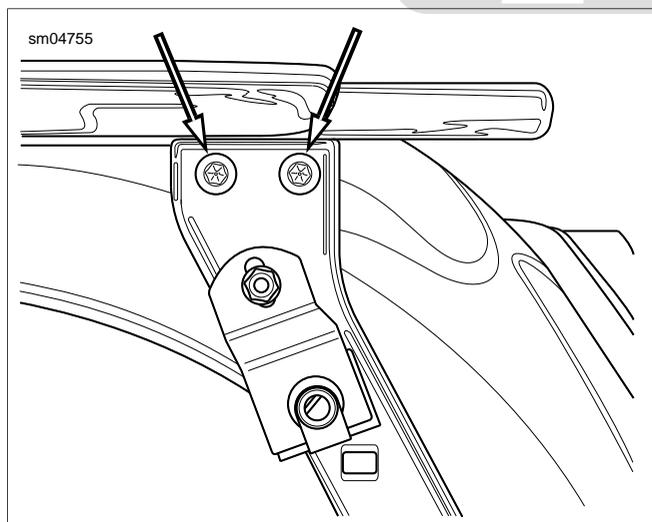

Figure 2-168. Saddlebag Support Bracket Screws
10. Remove upper rear screw from saddlebag support bracket. Repeat step on opposite side of motorcycle. See Figure 2-168.
2. Engaging hole of fender rear spacer nut, start upper front screw in saddlebag support bracket. Repeat step on opposite side of motorcycle. See Figure 2-168.